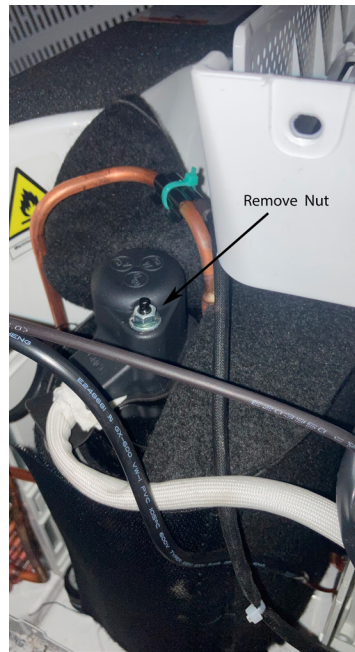

Figure 605
6. Remove Compressor Cap (5/16 nut) and disconnect wires from Compressor. See Figure 605.